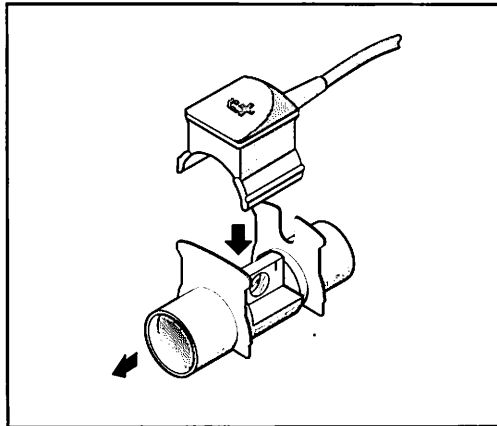

Figure 2-40. Attaching CO₂ sensor to adapter
- 2 Holding the airway adapter in one hand and the sensor in the other, align the sensor over the adapter and between the protruding “tabs” as shown in Figure 2-40 on page 2-83.